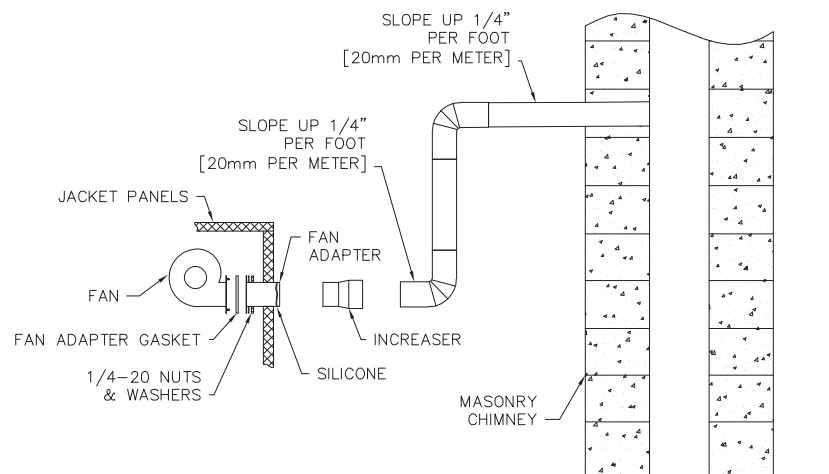

Figure 4.1: Chimney Venting
3. Locate fan adapter, silicone, hardware and fan adapter gasket in boiler miscellaneous parts box and attach to blower outlet flange. Refer to Fig. 4.1 for details.